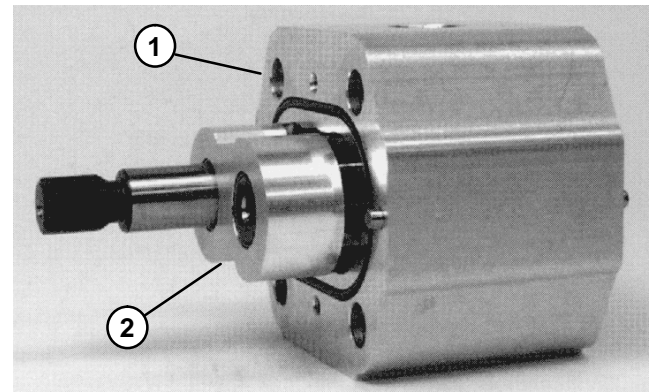

Figure 18d
7. Place the motor on its side and push on the rear bearing block to remove the bearing block and gear set (Fig. 18d).